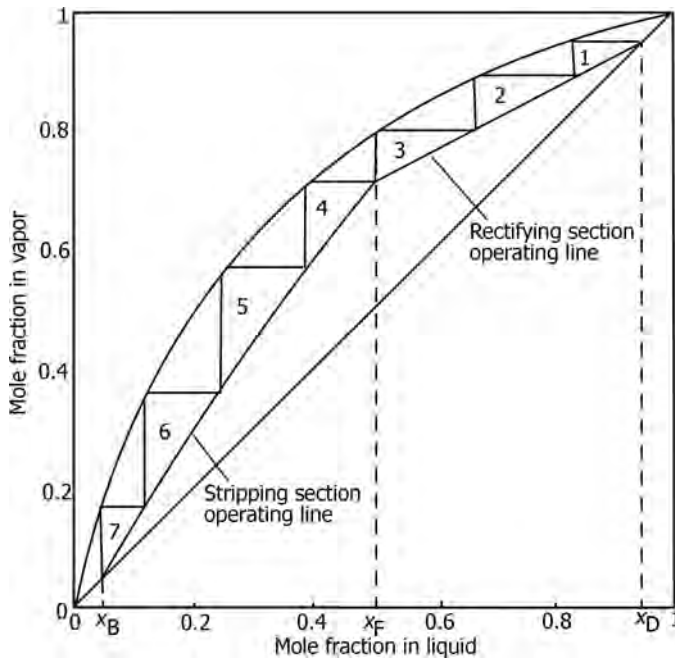

FIGURE 17.17 McCabe–Thiele construction for number of theoretical trays.
- Figure 17.17 demonstrates McCabe–Thiele graphical procedure showing three theoretical trays in rectifying section and four theoretical trays in stripping section.